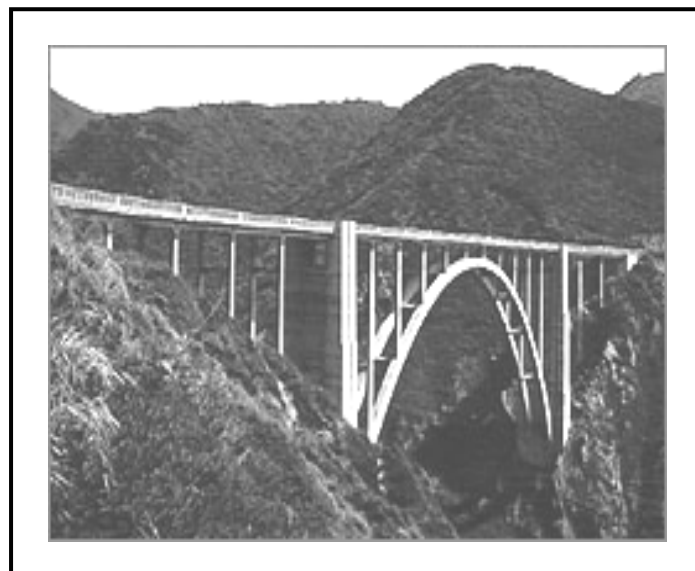

Figure 1.2: Arch Bridge Bixby Creek, Monterey, CA.
- ✚ Figure 1.2 shows the arch bridges are one of the oldest types of bridges and have great natural strength.